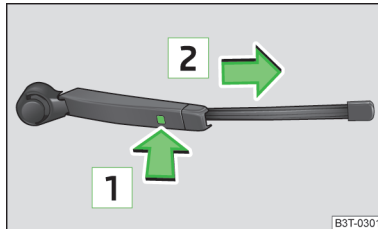

Fig. 195
- Hold the upper part of the wiper arm and unlock the securing mechanism » Fig. 195.